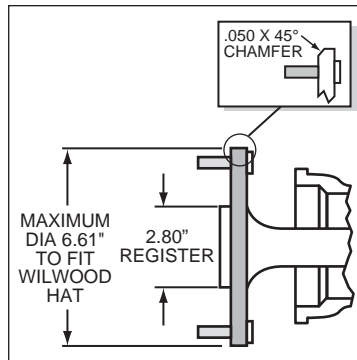

Figure 3. Axle Flange Maximum Dimension
- Axle center register diameter is 2.80", Figure 3. This kit may be supplied with Wilwood's removable center register adapters for rotors with larger 3.06" registers. Other rotors may have smaller 2.80" register and will not require or be supplied with register adapters.
- Axle center register diameter is 2.80", Figure 3.
- Maximum axle flange diameter must be no larger than 6.61" w/.050" x 45° chamfer, Figure 3.